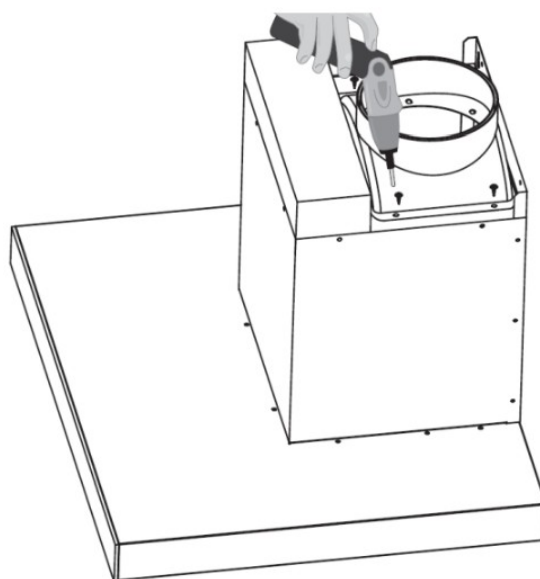

Fig. 3
2. Align the holes on the rubber gasket and duct outlet with the holes on the top of rangehood body, and fix them with 4 Screws C provided, see below, Fig 3.